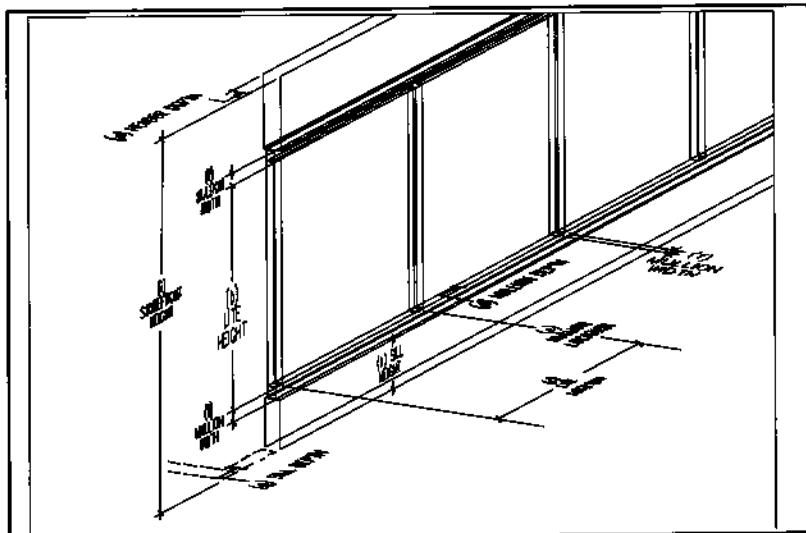

Figure 28.
4. Storefront terms described in the Status display and cascading submenu are shown in Figure 28.